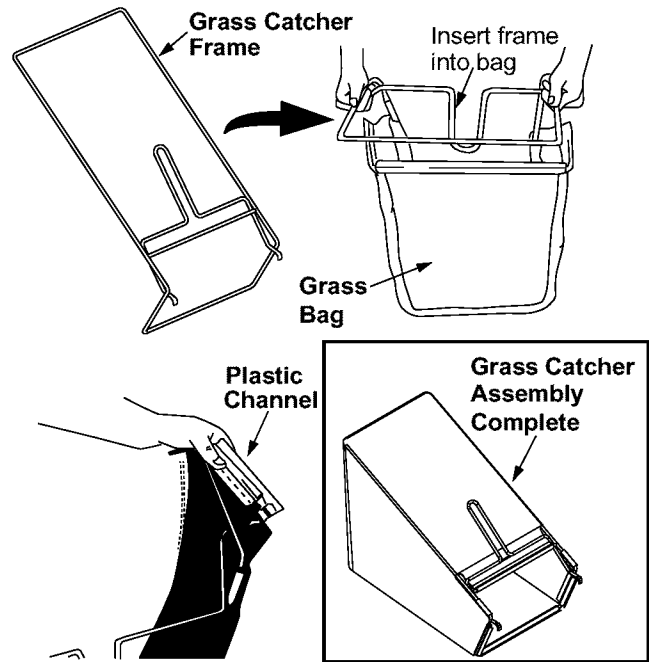

Figure 7
1. Insert frame into grass bag with the black plastic side on the bottom of bag. See Figure 7 .
IMPORTANT: Entire channel except the center top of the bag attach from outside of bag. The center top of the bag attaches from inside of bag. See Figure 7 .